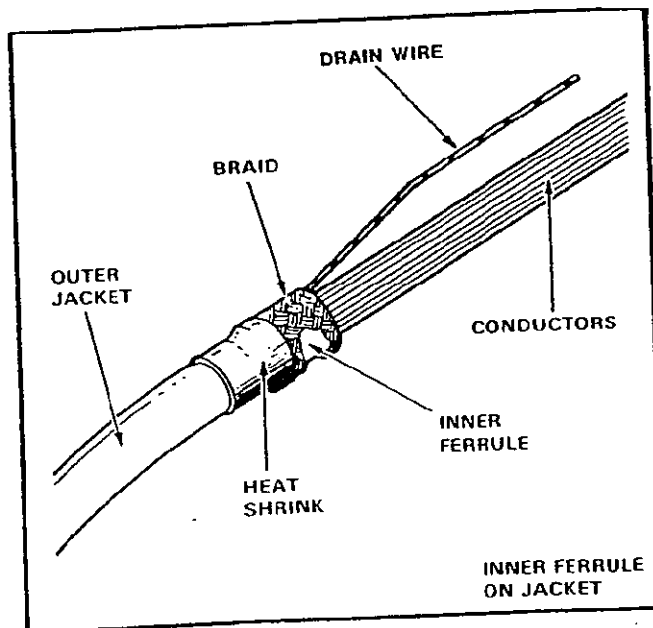

Fig. 3
Follow the procedure as detailed in Section 'B' and Figure 3 if the cable jacket diameter is less than the inside diameter of the ferrule.
1. Slide inner ferrule, Item 7, over outer cable jacket and stop flush with end. (See Figure 3)